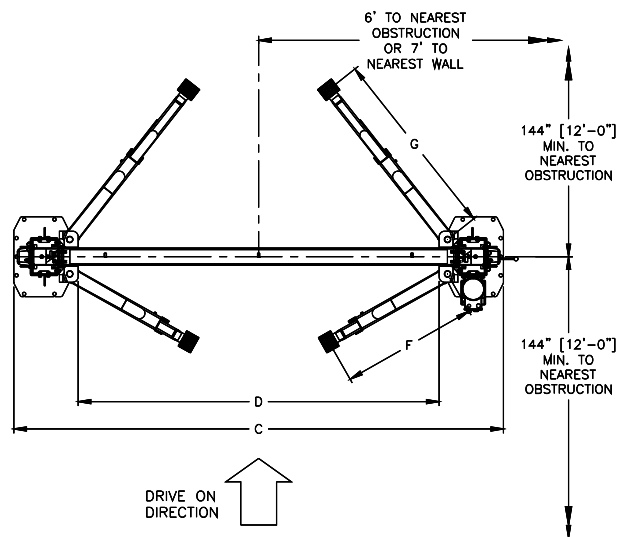

Fig1b - Service Bay Layout
- Layout the service bay according to the architect's plans or owners instructions (**see Fig 1b**). **Failure to install in this orientation can result in personal and property damage.** Be certain that the proper conditions exist, see page 3.